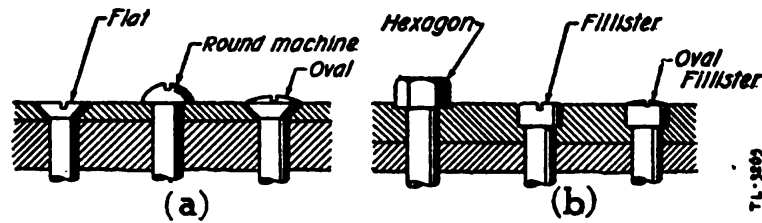

Figure 6
9. Machine screws.—Machine screws are used to hold metal or other hard material parts together. They are classified in the following manner: length, type of head, number of threads per inch, diameter of gauge and the material made of. The common types of machine screw heads are illustrated in figure 6.